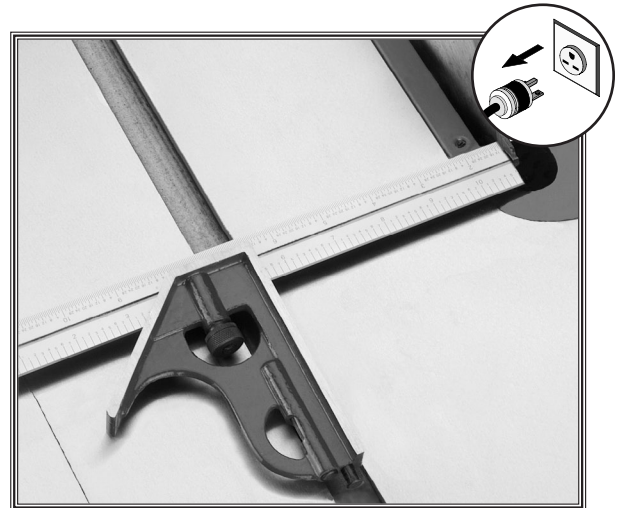

Figure 66. Measuring blade to miter slot.
3. Use an adjustable square to measure the distance from the miter slot to a carbide tip on the blade as shown in **Figure 66**. Make sure that the face of the adjustable square is even along the miter slot.